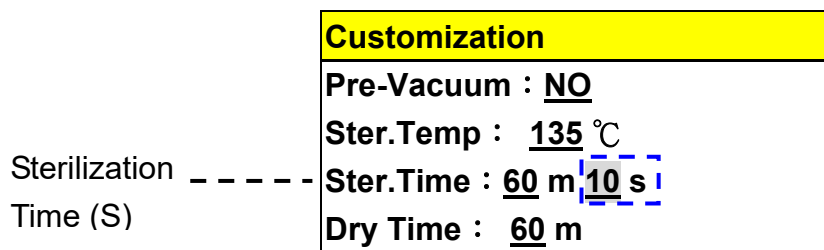

Figure 90
- Press  button to store sterilization time parameter as shown in Figure 90.